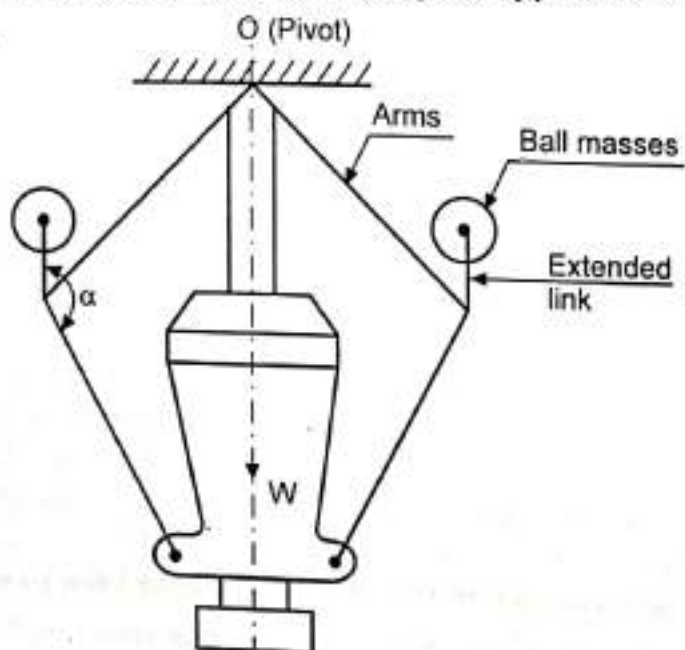

Fig. 5.6 : Proell Governor
- Fig. 5.6 shows the Proell Governor which is the modification of simple governor.